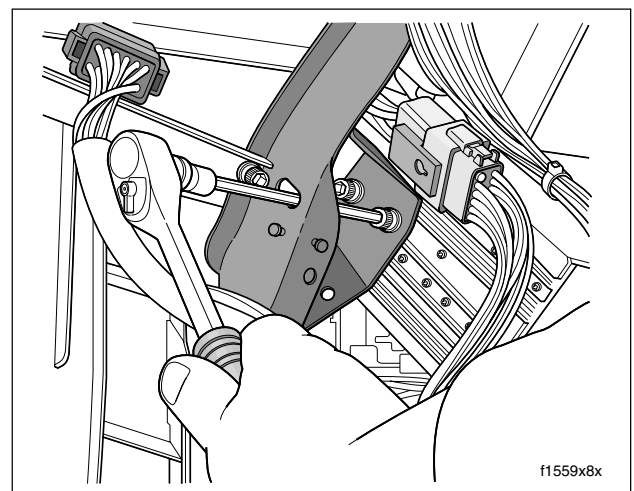

Figure 8-137. Release Carrier from Fairing Brackets
6. Using a long shank ball end socket (Snap-on® FABL6E), remove four screws to release radio from left and right radio support brackets. Use oblong holes in fairing brackets to access screws. See Figure 8-137.